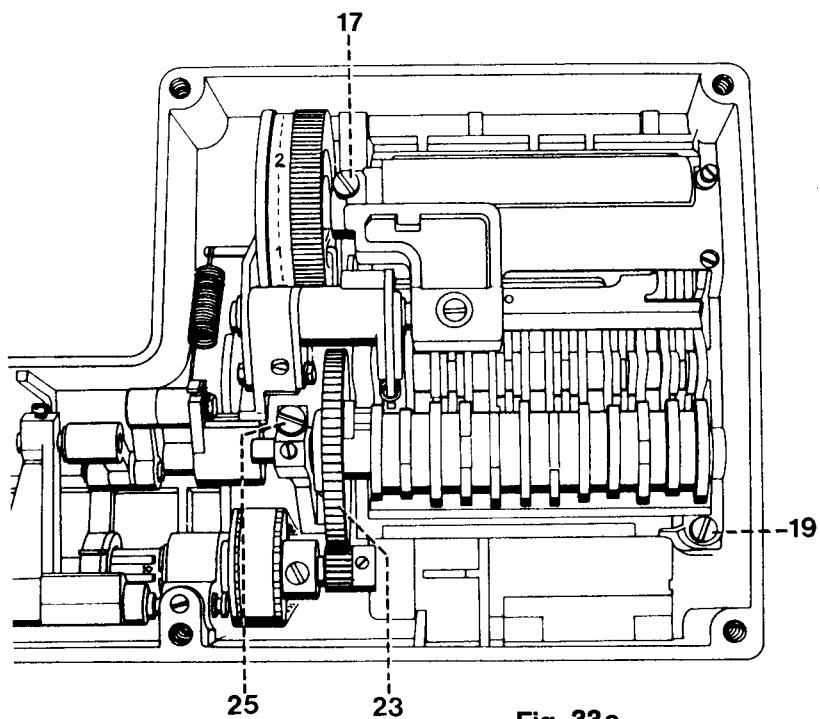

Fig. 33c
- Push the automatic mechanism toward the front somewhat and pull cleated machine belt 77 out between large gear 23 and the end of the shaft (Fig. 33c).
- Pull the new cleated machine belt 77 between large gear 23 and the end of the shaft and mount it on lower belt sprocket 80 (Fig. 33c).